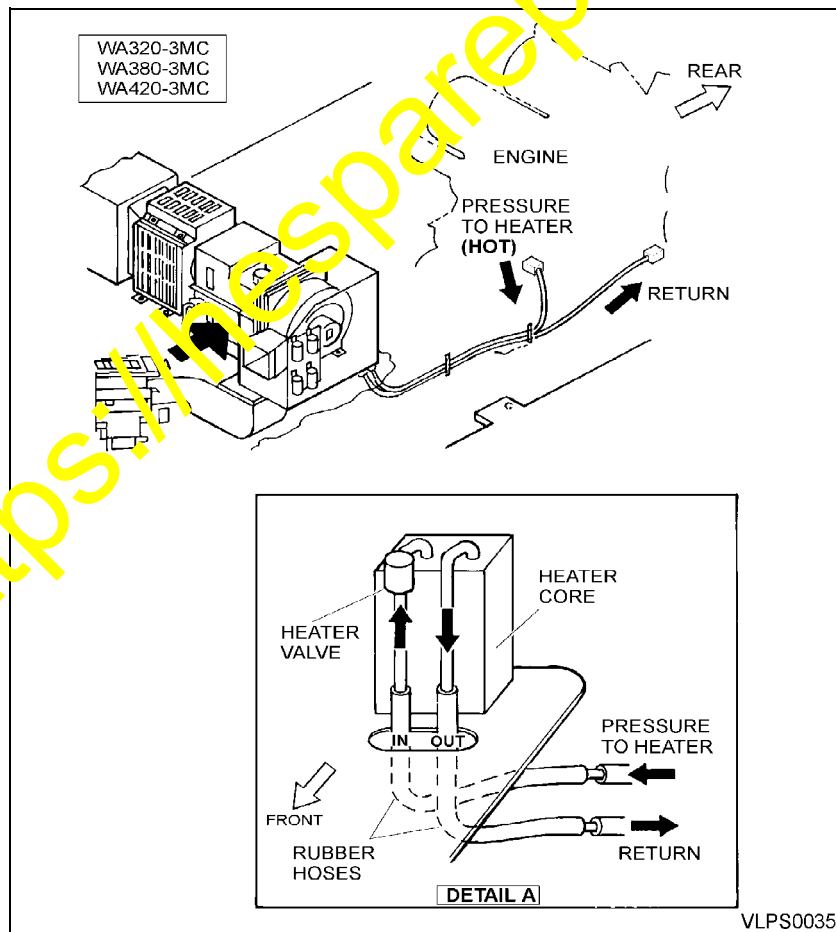

Figure 1
Proper connections are shown below as a reference. Figures 1 (WA320, 380, 420-3MC) and 2 (WA450-3MC) are examples of the heater hose routing. Note that this routing may vary according to the model being serviced.
3. Remove the plastic panels (2) inside the cab below the rear window. Also remove the cool and hot box assemblies (3).
5. Reconnect the heater core's inlet and outlet hoses according to Figure 1 or Figure 2 depending on the machine.